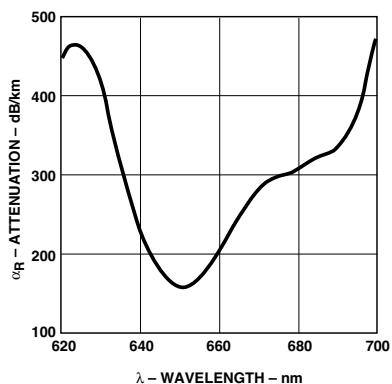

Figure 1. Typical POF attenuation vs. wavelength.
7. Note that  $α_R$  rises at the rate of about 0.0067 dB/°C, where the thermal rise refers to the LED temperature changes above 25°C. Please refer to Figure 1 which shows the typical plastic optical fiber attenuation versus wavelength at 25°C.